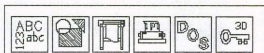

Figure 3: Pick the DOS tool
- From the 2D or 3D tool bar, Scroll Forward until you find the DOS key. Pick it to go to the DOS prompt. (See Figure 3.)